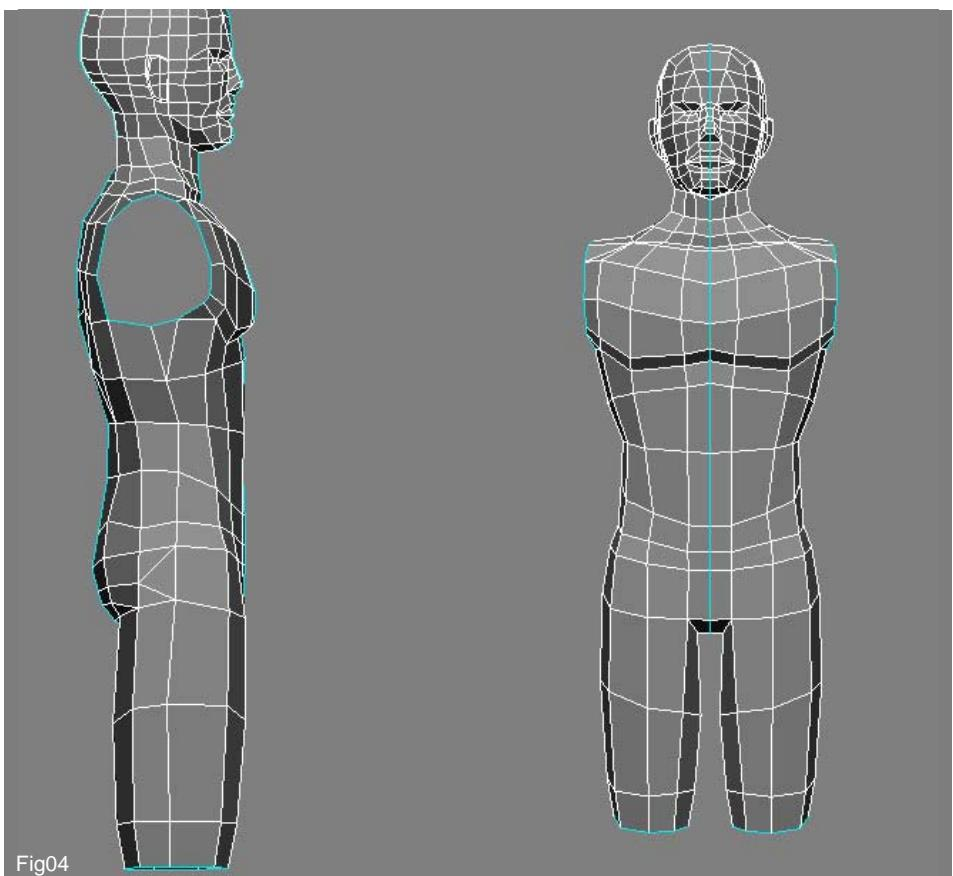

Fig04
4. Extrude the edges twice more, down to the knee area (Fig 04). Don't forget to adjust the vertices every time you extrude, so as to always have a clean mesh and a nice shape for the leg.